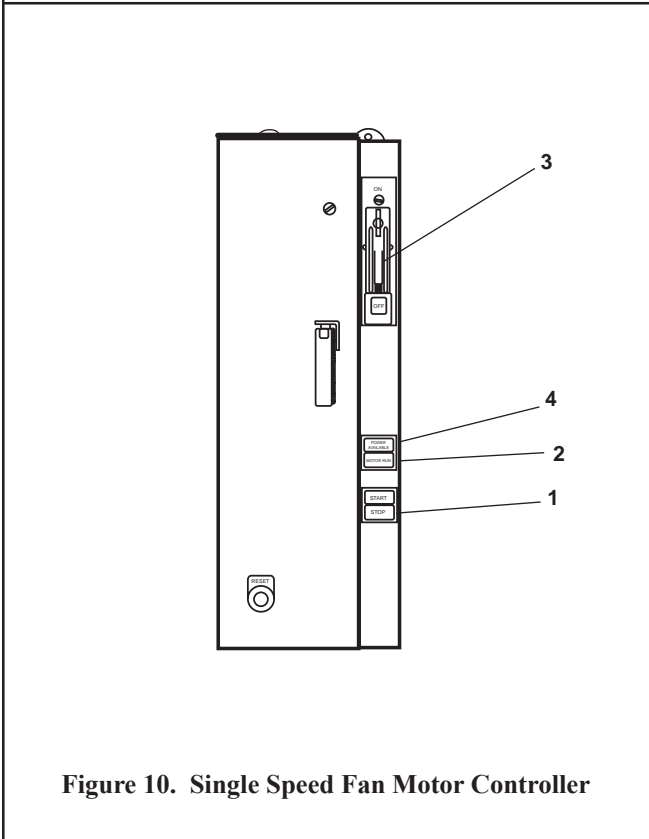

Figure 10. Single Speed Fan Motor Controller
- a. Press the STOP pushbutton (figure 10, item 1).
- b. Verify that the MOTOR RUN indicator (figure 10, item 2) goes out.
- c. Set ON-OFF switch (figure 10, item 3) to OFF.
- d. Verify that the POWER AVAILABLE indicator (figure 10, item 4) goes out.
- a. Press and release the STOP pushbutton (figure 10, item 1).